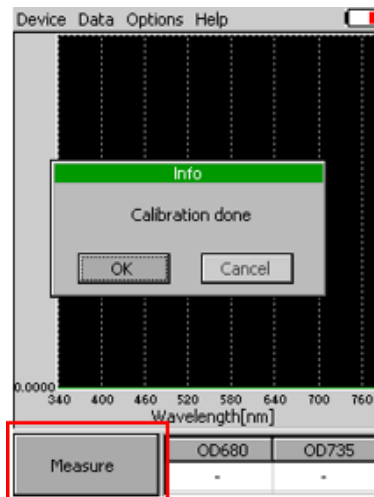

Fig. 3 Measure icon.
- After the calibration step is performed, Main window icon **Calibrate** will change into **Measure** (Fig. 3).